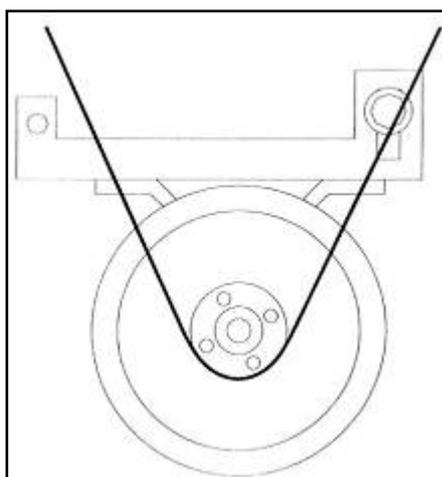

Fig. 5-2 Belt Tensioning Bolt
- b) After disconnecting power to the machine and removing all panels necessary for access to the drive belts, use the following method to verify that the V – belts are properly tensioned. Belt tensioning is straight forward, and accomplished by loosening the tension adjusting bolts and adjusting the belts to the proper tension. Then the bolts **should be** tightened. See figure 5-2.